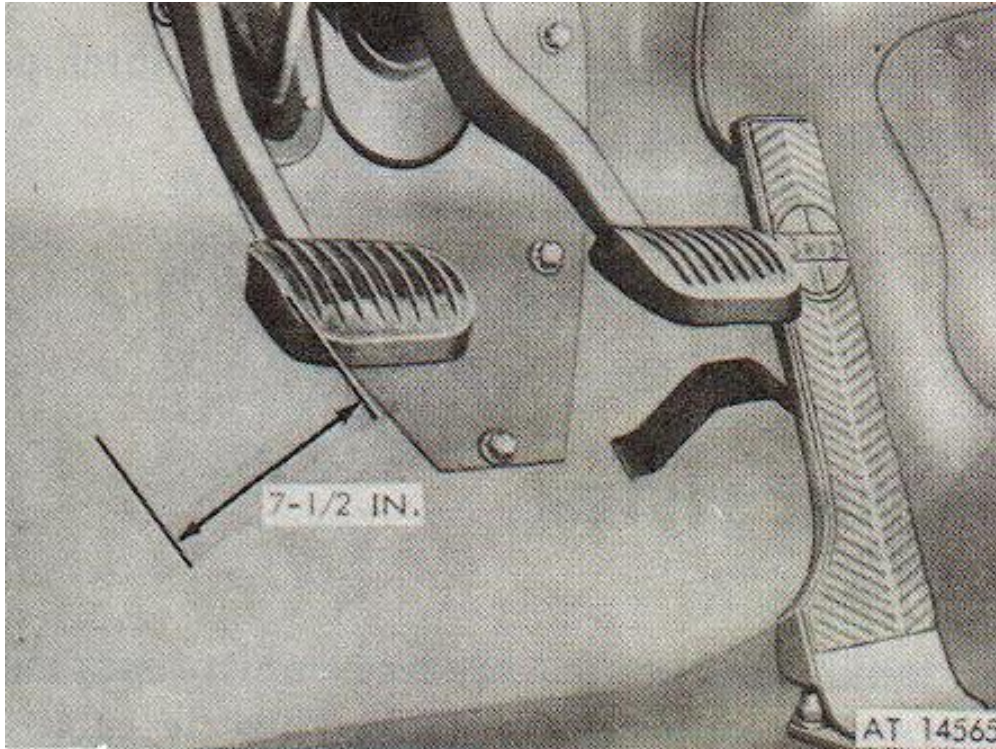

FIGURE 2-9 Clutch Pedal To Toe Panel Measurement
a. Disconnect the adjusting rod from the clutch pedal. Turn the adjusting nut in or out of the clutch bracket to position the clutch pedal. Hold a ruler perpendicular to the toe-riser panel and adjust pedal stop until top of clutch pedal pad is $7\frac{1}{2}$ -inch minimum from toe-riser panel to $1\frac{1}{2}$ -inch above the brake pedal, (fig 2-9).